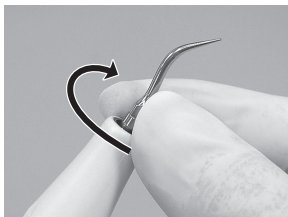

Fig.13
- 1) Turn Tip lightly by hand, and install it. (Fig. 13)